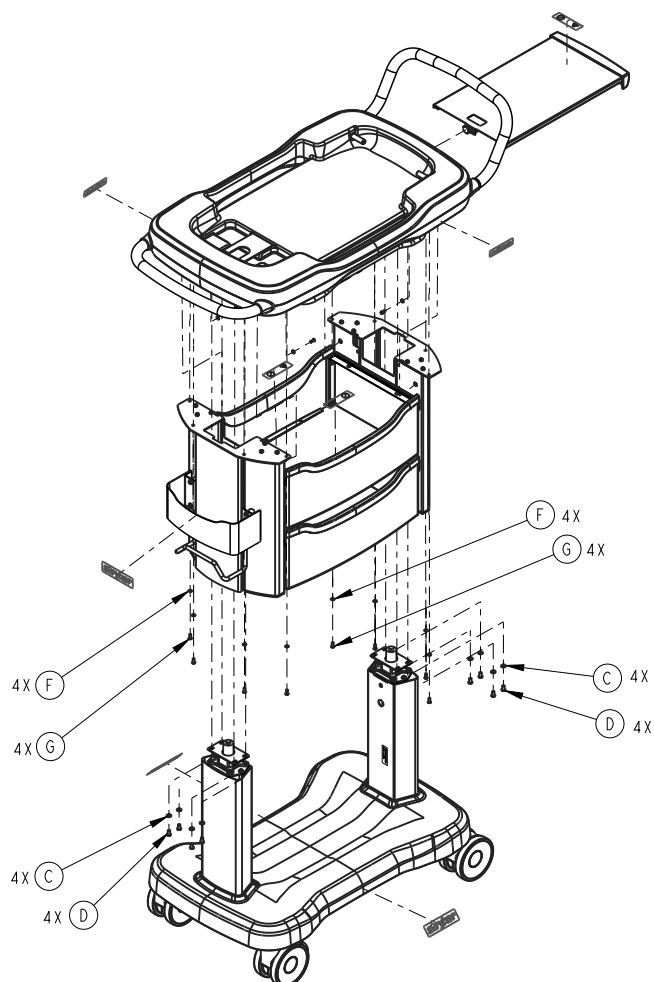

Figure 8 – Column and drawer assembly
2. Using a 1/8" hex wrench, remove the eight screws (G) and washers (F) that secure the column and drawer assembly to the top cradle bracket (Figure 8). Save the screws and washers.